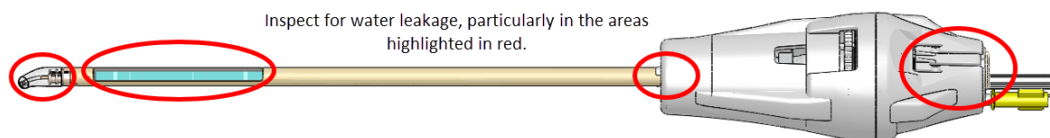

Figure 22: Areas to inspect for water leaks in the UA
7. **Urologist:** Closely inspect the UA along the length of the shaft for any water leakage, paying attention to the areas of interest shown in *Figure 22*. If you see water, the UA is defective and must not be used.